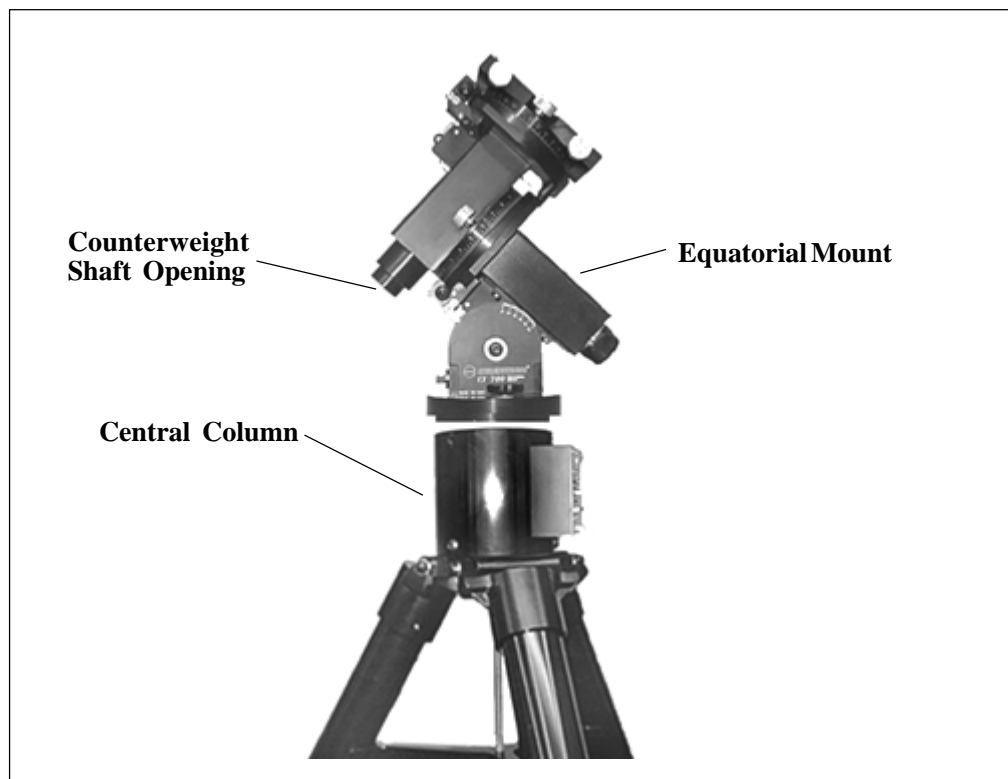

Figure 2-5
3. Insert the three remaining 3/8-16 cap screws and washers provided through the holes in the central pier and into the equatorial mount (see Figure 2-5).